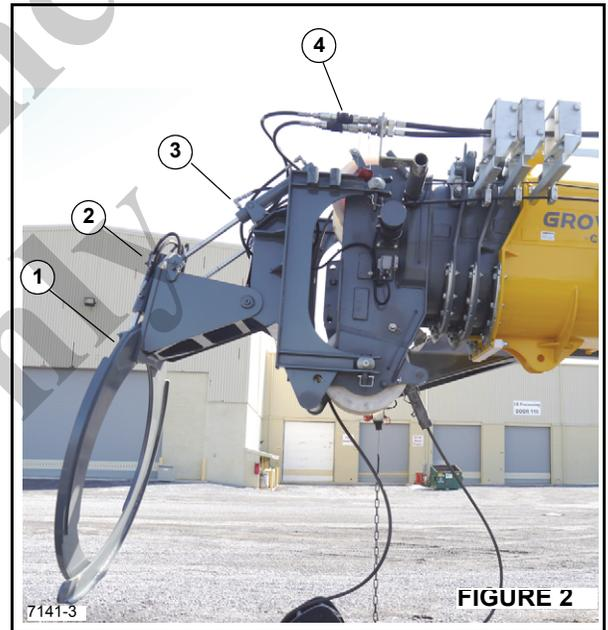

Figure 2 Item Numbers
7. Connect the pole claw hydraulic hoses to the quick-change couplings (4 Figure 2) at the boom head.